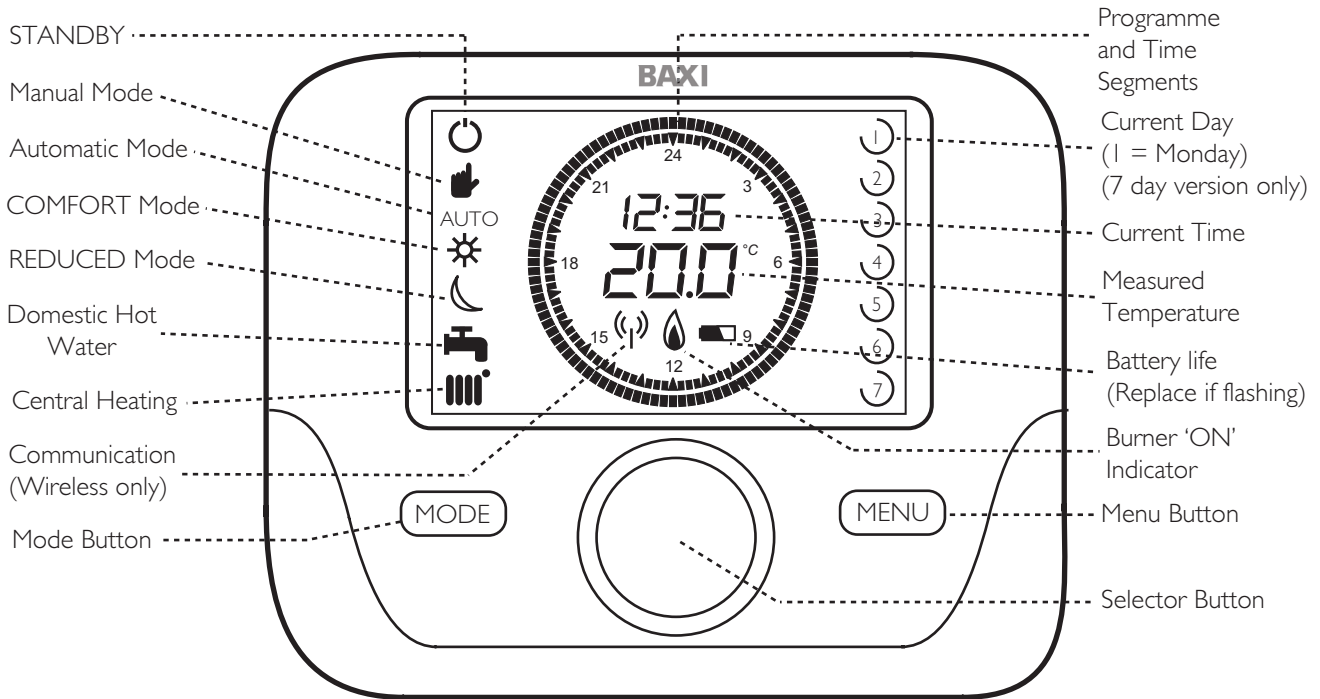
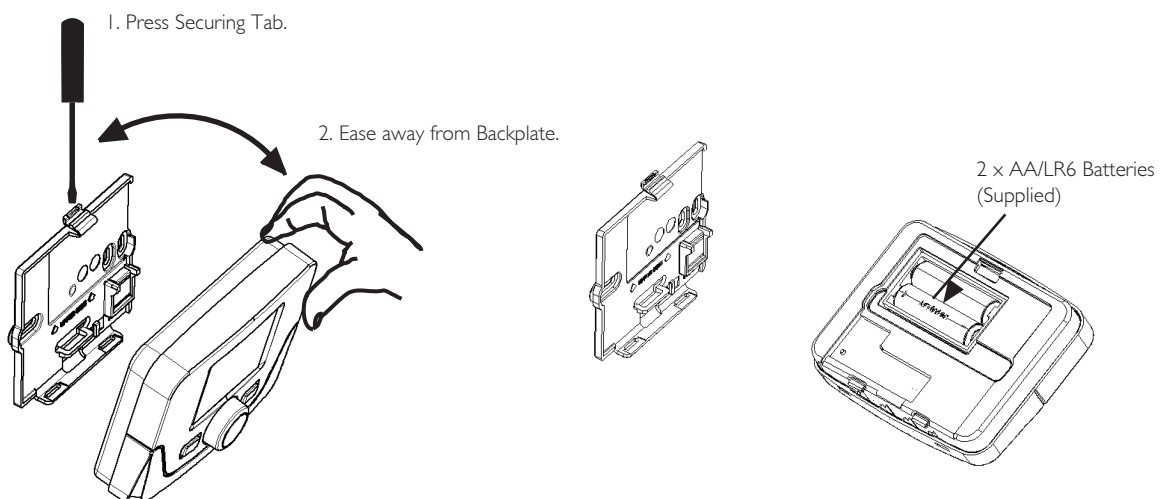

Fig 5. Programmer & Room Sensor front view with functions
Fig. 12. Accessing batteries
1. The units require 2 AA type alkaline batteries (Supplied). Installation of the batteries is shown in Fig. 12.
2. If the battery symbol is seen flashing in the digital display (Fig. 5) the batteries need replacing. See Fig. 12 for details.
2. Remove the backplate from the unit by pressing down on the rear tab and easing apart. Fig. 12.
8. Fit the batteries to the Programmer & Room Sensor. Fig. 12.